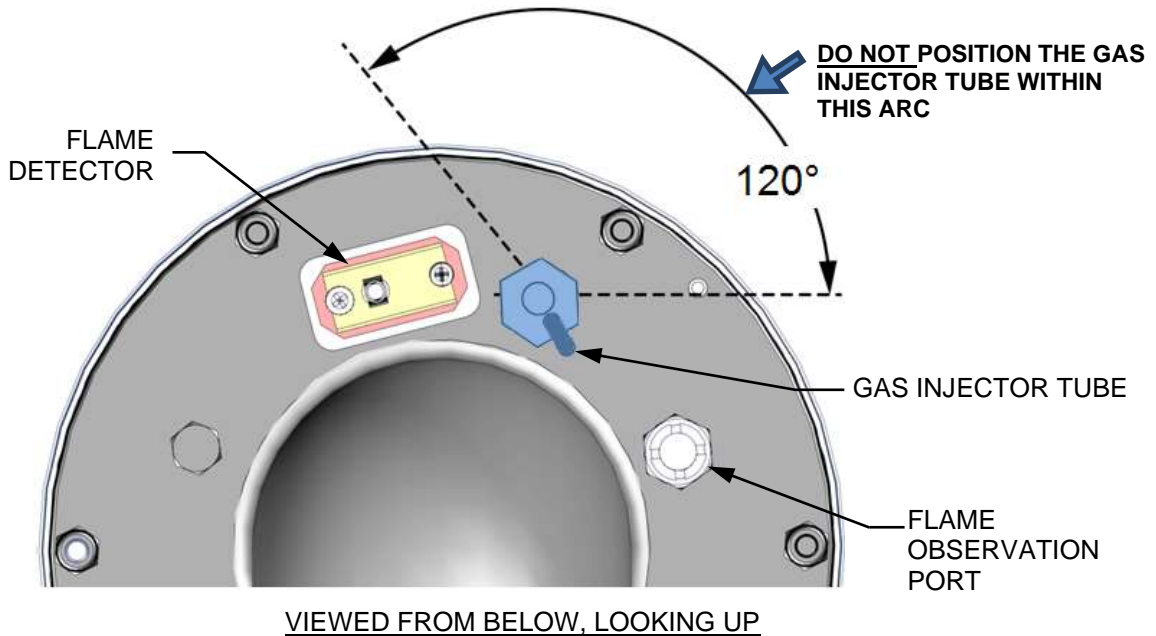

Figure 6-2. Igniter-Injector & Flame Detector Mounting Details
8. Install the igniter-injector on the intake manifold flange. Use the number of clocking washers required to rotate the Igniter-Injector so that the injector tube is **outside** the approximately 120° arc shown in Figure 6-2.
5. Disconnect the lead wire from the flame detector installed on the intake manifold flange (Figure 6-2).